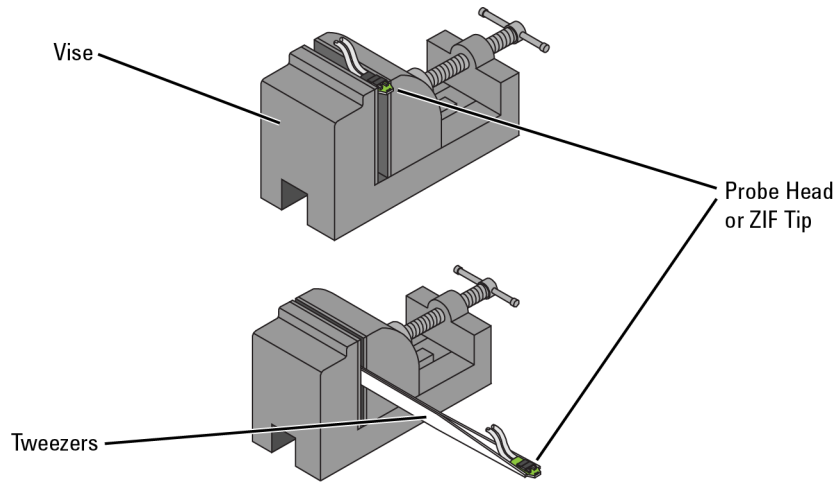

Figure 49 Clamping the Part
- 1 As shown in **Figure 49**, clamp the probe head or ZIF tip in a vise. Tweezers can be used to hold the probe head or ZIF tip away from the vise. When using tweezers, grip the tip either on the sides or top and bottom.